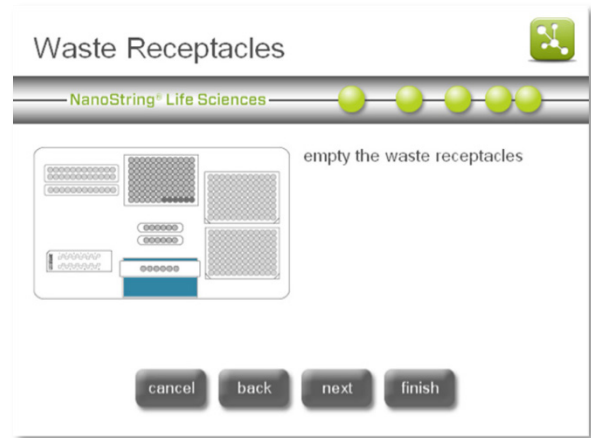

Figure 18: The 'Waste Receptacles' screen.
6. The 'Waste Receptacles' screen will appear (Figure 18). Remove the liquid waste container from the combined receptacle and dispose of the liquid appropriately. See the previous section on Waste Removal for further information.